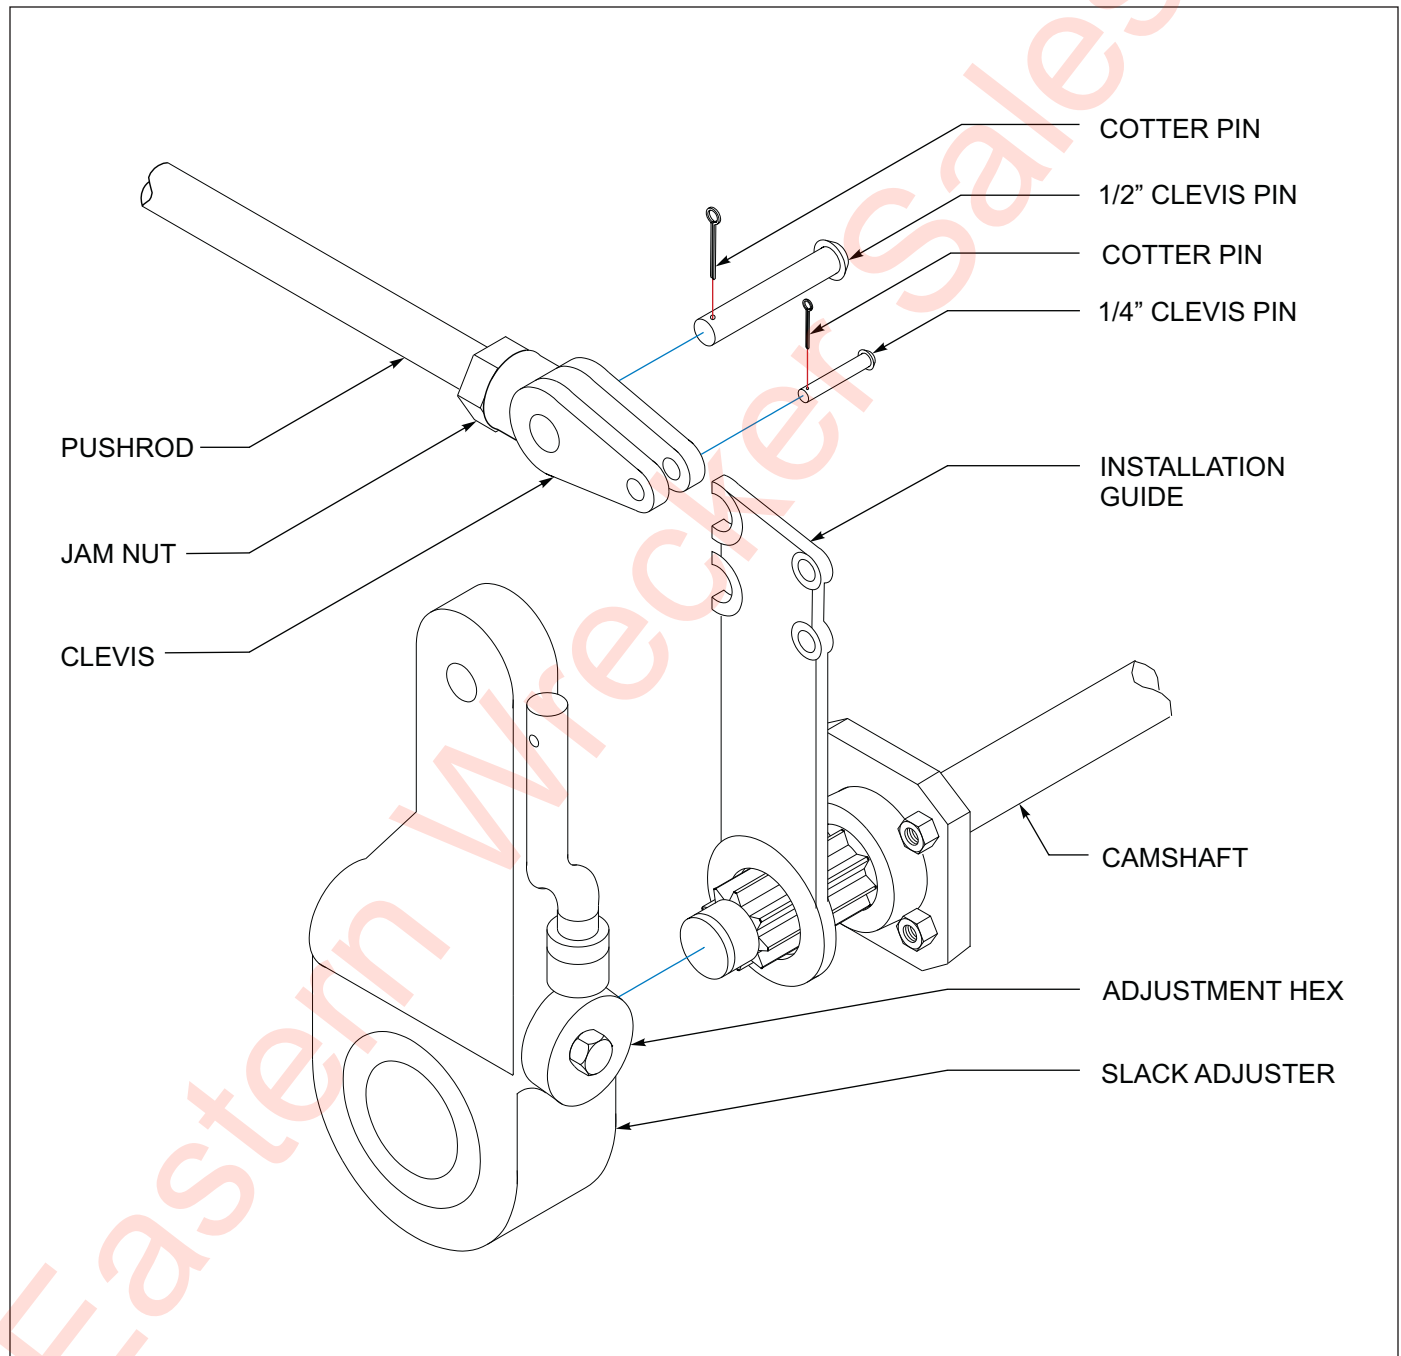

Figure 4-12: Slack Adjuster
4. Disconnect the slack adjuster from the connecting rod by removing the clevis pin (*See Figure 4-12*)
2. Check that the push rod is fully retracted, apply air to release spring brake (*See Figure 4-12.*)